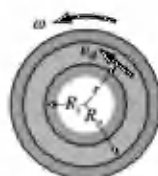

FIGURE P7.13R
7.13R (Dimensionless governing equations) The flow between two concentric cylinders (see Fig. P7.13R) is governed by the differential equation